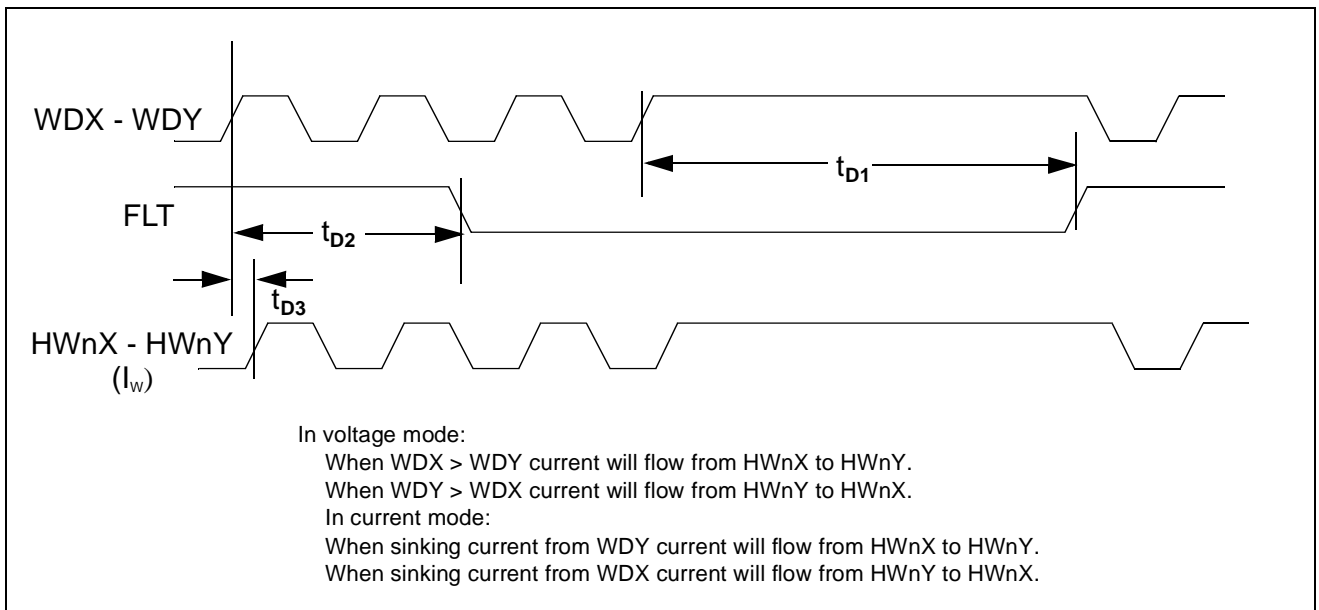

Figure 119 Write Mode Timing Diagram
1. See Figure 119 for the write mode timing diagram.